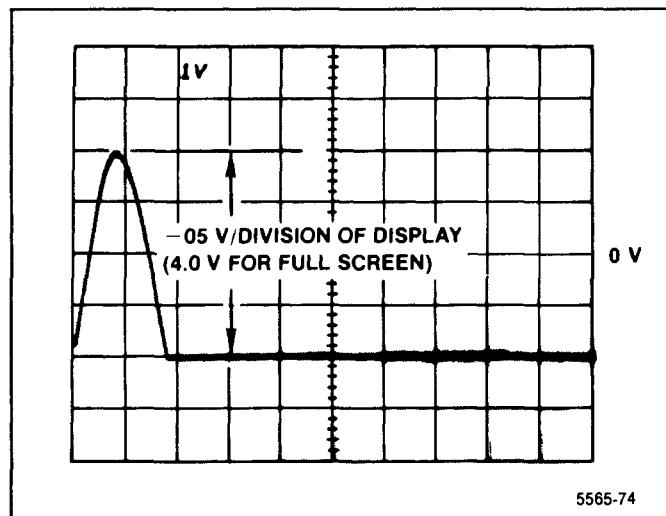

Figure 4-21. Test oscilloscope display of VERT output with a full screen display on the Spectrum Analyzer.
e. Check that the amplitude of the VERT OUTPUT signal is 4 V peak-to-peak  $\pm 0.2$  V centered around 0 Vdc as displayed on the test oscilloscope. See Figure 4-21.